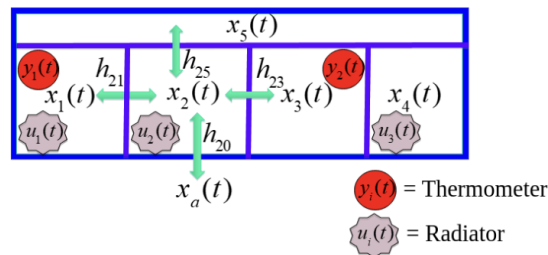

Fig. 2: Building model schematic
4. (20 points) (LQR for Buildings) Consider a multi-zone building as in Fig. 2.